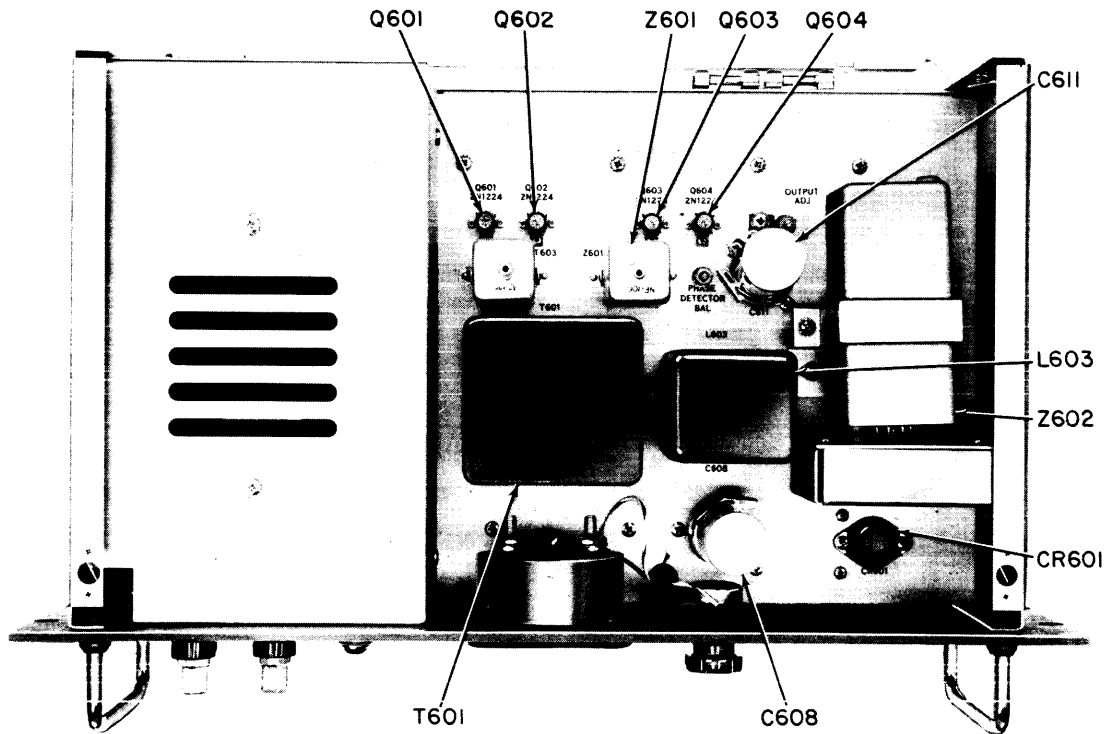

Figure 5-1. Location Diagram of Major Electronic Components, Top View
- c. Top and bottom chassis view locating unit components (figures 5-1 and 5-2).